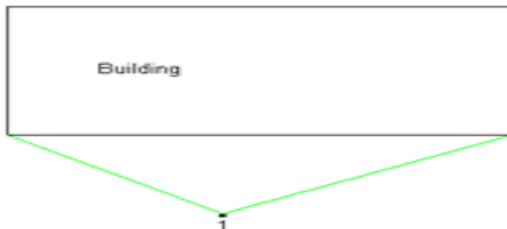

Fig. 4-8 Triangulation. Item 1 is located using triangulation from the two corners of the building.
- Triangulation – measurements are taken from two fixed points at the scene to the object you desire to locate. For example, item 1 in Figure 4-8 is located by taking measurements (length of the green lines) from two corners of the building.